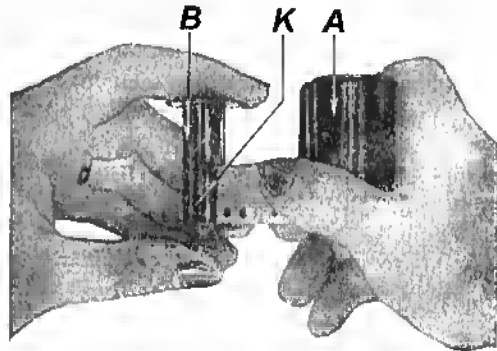

Fig. 10
3. Hold the takeup spool "B" with the left hand and the film cassette with the right. Insert the film end under the spring "K" of the takeup spool (fig. 10). The perforated edge of the film should be right next to the spool flange.